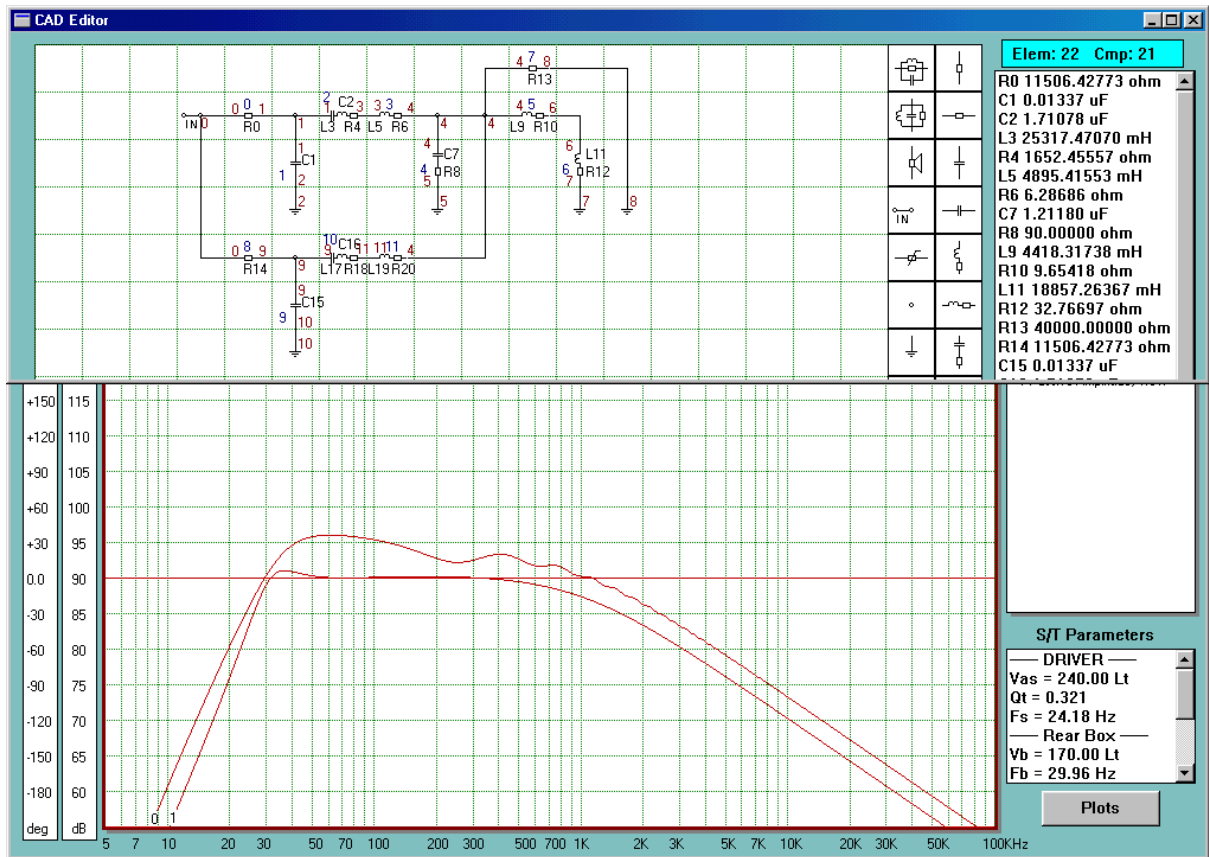

Fig 6.5 Frequency response of 2 drivers
Two drivers mounted in the same enclosure will double the on-axis and inside the box pressure. This is modelled by adding a group of components (Fig 6.5 - R14, C15, C16, L17, R18, L19 and R20) simulating the second driver in parallel with the first driver and connecting branch 11 to node 4. Now, currents in branches 3 and 11 are flowing into node 4. Second factor affecting total system output is mutual radiation impedance. Mutual radiation impedance is modelled by an in-built power factor as described in SoundEasy manual - that is, if the “2 Drivers Parallel” box is checked in the plotting control dialogue box. Please do not forget about entering the required separation distance. Please review the following figures:
2. Fig 6.5 - shows the “2 drivers parallel” CAD model. Frequency response “0” is the total system output and frequency response “1” is the same enclosure with just single driver.